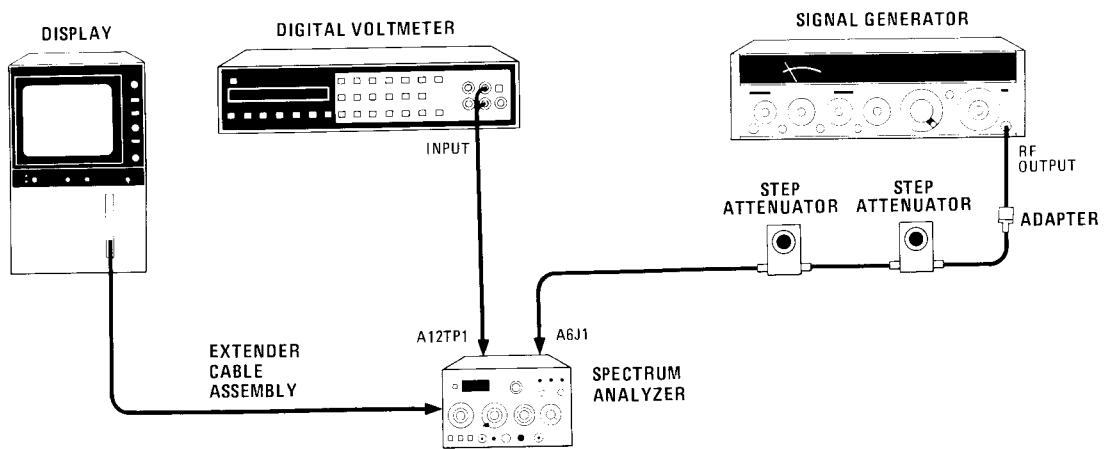

Figure 5-9. Log Amplifier Log and Linear Adjustments Test Setup
2. Set 1-dB step attenuator to 10 dB and 10-dB step attenuator to 0 dB. Remove W3P1 (orange cable) from A6J1 and connect equipment as shown in Figure 5-9, using test cable to connect step attenuator to A6J1.